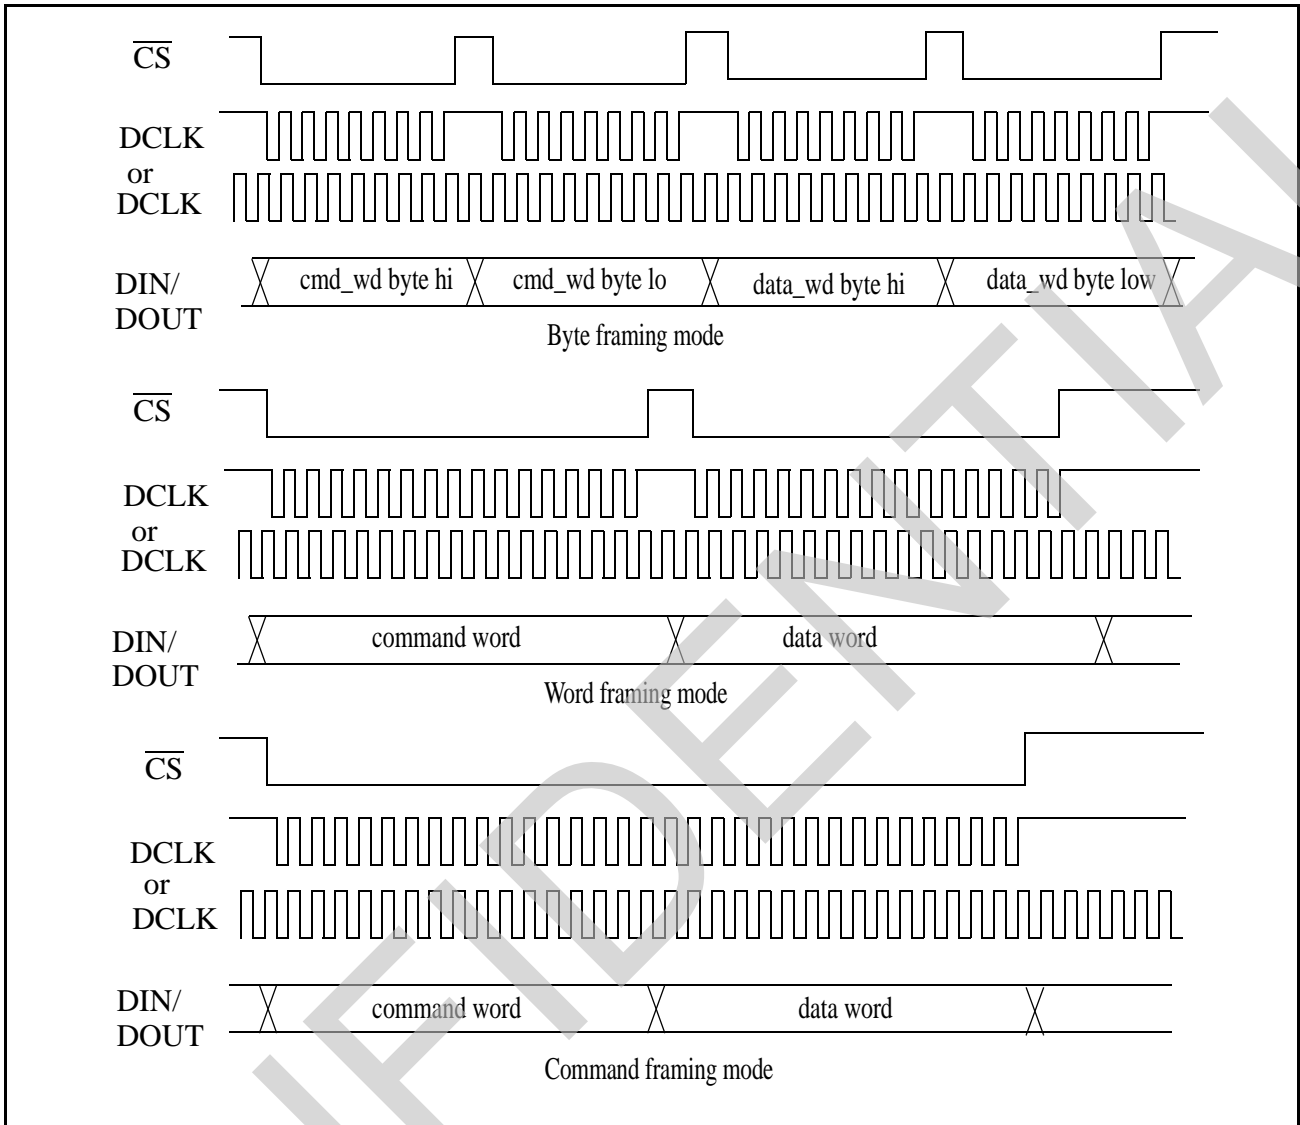

Figure 23 -  $\overline{CS}$  Framing Modes
- $\overline{CS}$  pin supports byte/word framing, and command framing mode, as shown in Figure 23. The SPI slave state machine will reset if  $\overline{CS}$  returns to High when the number of active DCLK pulses is not equal to 8 or 16. If there is no clock,  $\overline{CS}$  has to be Low for more than 125 ns to be recognized to reset SPI slave state machine. In command framing mode, the transition of  $\overline{CS}$  to High means the command has ended. This event resets the SPI slave state machine, and the next falling edge of  $\overline{CS}$  starts a new command.
Figure 23 shows three kinds of framing modes based on the behavior of  $\overline{CS}$ . In byte/word framing mode,  $\overline{CS}$  is Low for 8/16 SCK clocks. For a two-word command,  $\overline{CS}$  needs to toggle 4/2 times to complete the command transfer. In command framing mode,  $\overline{CS}$  is Low for the whole duration of the command transfer. When the command is finished,  $\overline{CS}$  will go back to High. If  $\overline{CS}$  Low lasts shorter than the expected command length, the command is aborted and the SPI slave state machine resets. However if the user pulls  $\overline{CS}$  Low longer than the expected command length, the extra words will start a new command sequence. In both byte/word framing mode and command framing mode, DCLK can be free-running or absent when  $\overline{CS}$  is inactive High.